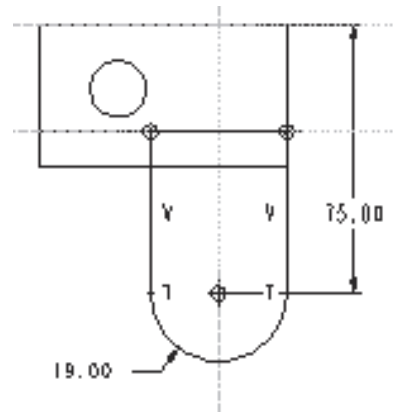

Figure 5-39 Sketch with dimensions and constraints
4. Once you enter the sketcher environment, turn the model display to **No Hidden**. Create the sketch for the third feature and apply constraints and dimensions as shown in Figure 5-39.